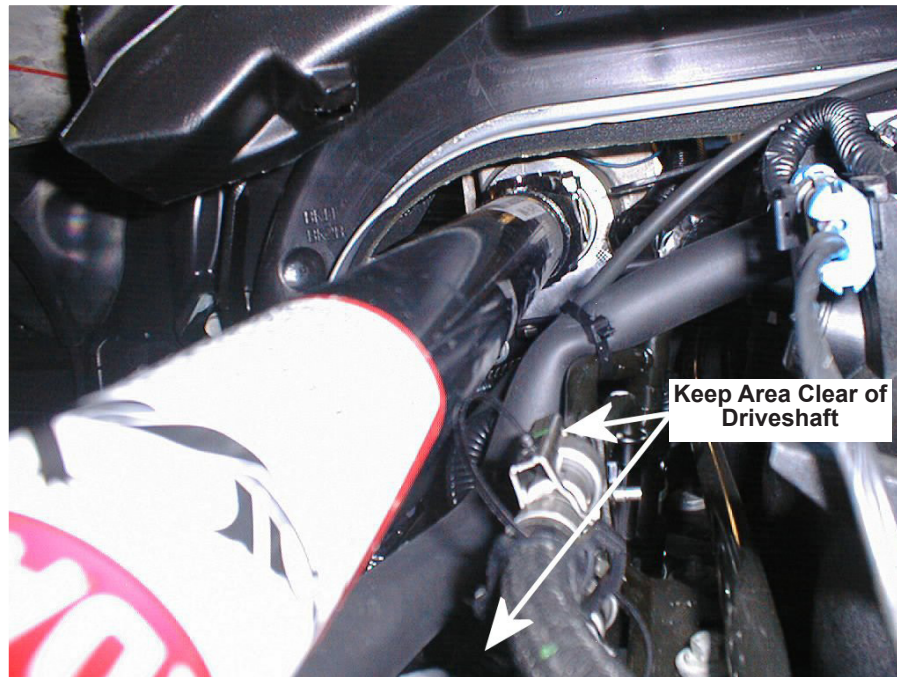

Figure 29. Slide Yoke into Drive Shaft
- a. Front to Back: Leave $\frac{1}{4}$ " between the jack shaft and the drive shaft yoke. This will allow for future removal of the drive shaft. Slide yoke onto jack shaft but do not tighten bolt yet. (See Figure 29)